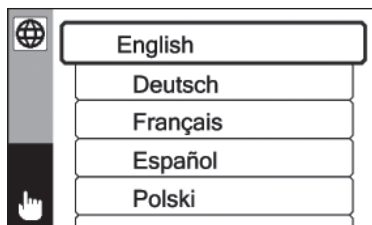

Fig. 13: Language
- Language of user interface2 (fig. 13)